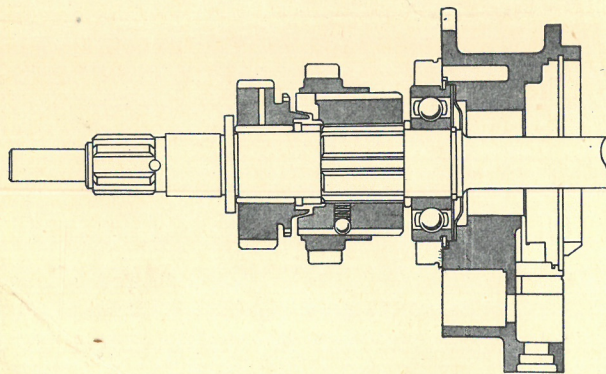

Fig. FF.24.
2. Build the gearbox first speed wheel and synchroniser, ball-bearing and distance-pieces on to the gearbox mainshaft, and locate the shaft assembly to the adaptor plate with the snap ring (see Fig. FF.24).